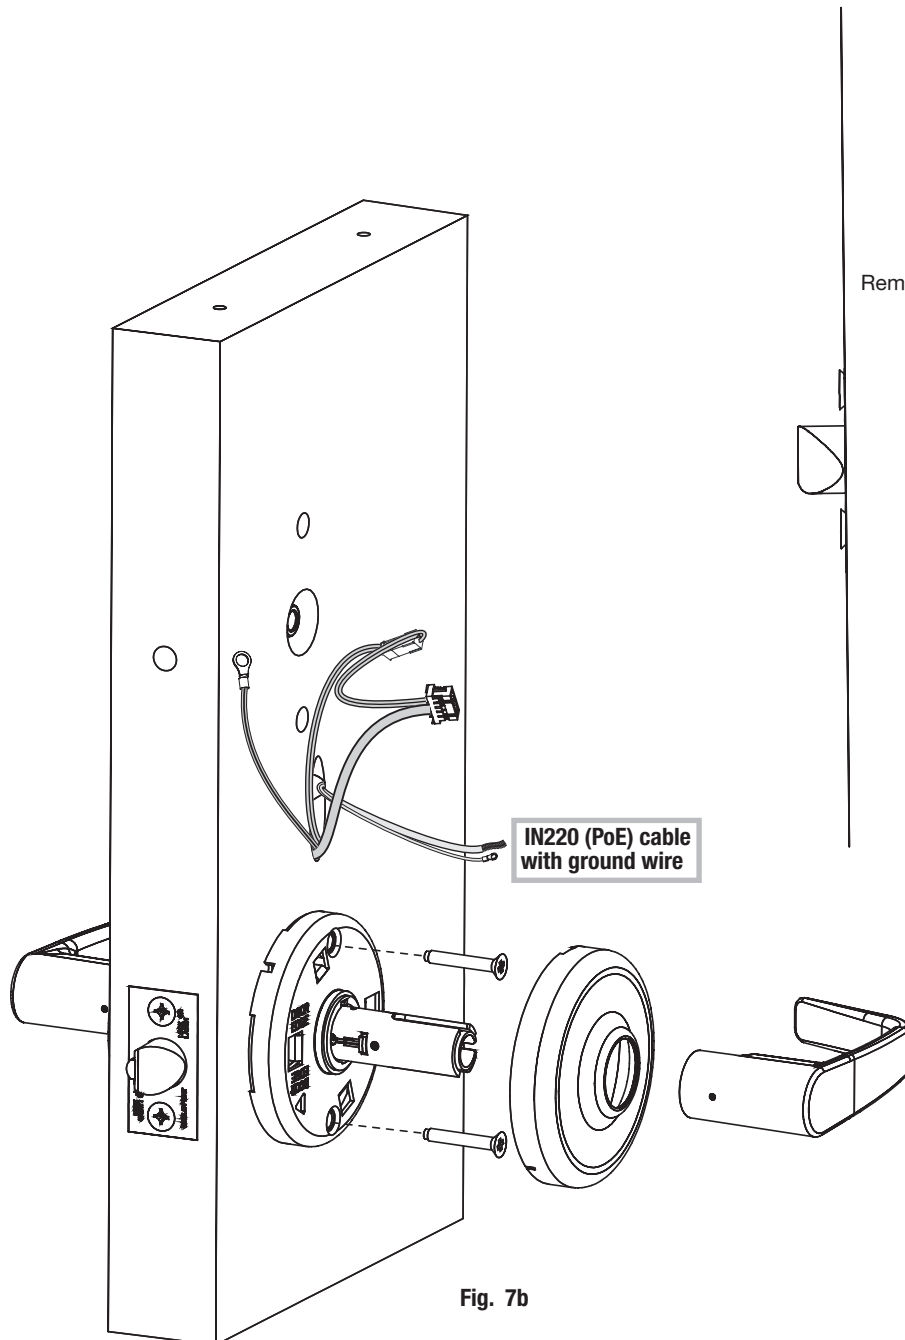

Fig. 7b
- c. Slide on cassette and secure with (2) screws (Fig. 7b).